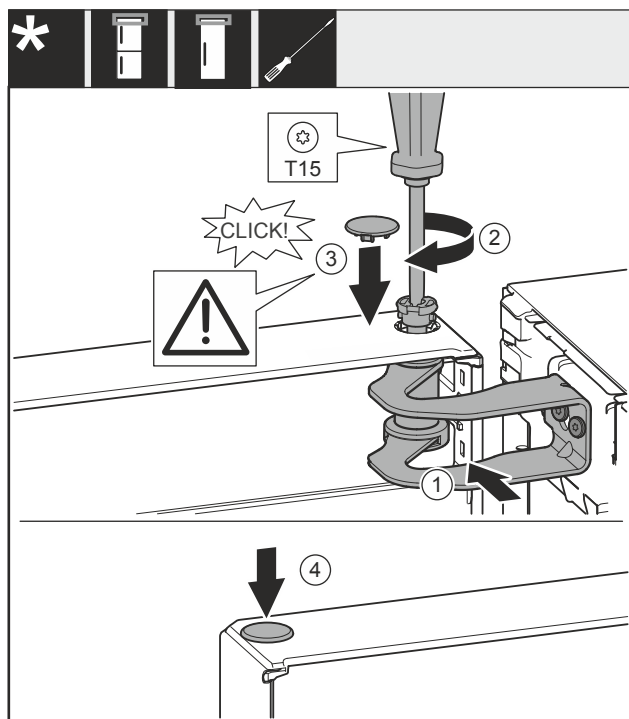

Fig. 25
- Align the door with the opening in the swap bearing block Fig. 25 (1).
- Insert the bolt Fig. 25 (2) and use screwdriver to tighten it.
- Insert the cover Fig. 25 (3).
- Check that the cover Fig. 25 (3) is resting on the door.
- Insert the cover Fig. 25 (4).